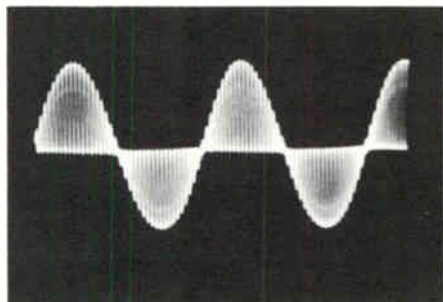
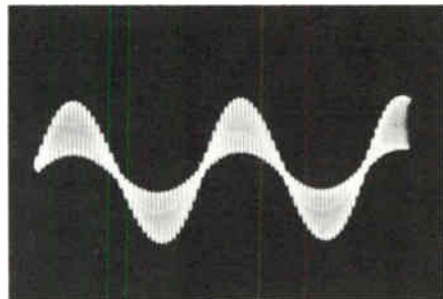

Figure 12. Trace Obtained at Output Cable with L5, L6, and L7 Properly Adjusted
Figure 13. Trace Showing *Improper* of L5, L6, and L7
2. Adjust the trimmer capacitor C-10 for minimum capacity (maximum counterclockwise). Adjust L-5, L-6, and L-7 to obtain a waveform as shown in Figure 12. Figure 13 is shown as an example of *misadjustment* of these coils.